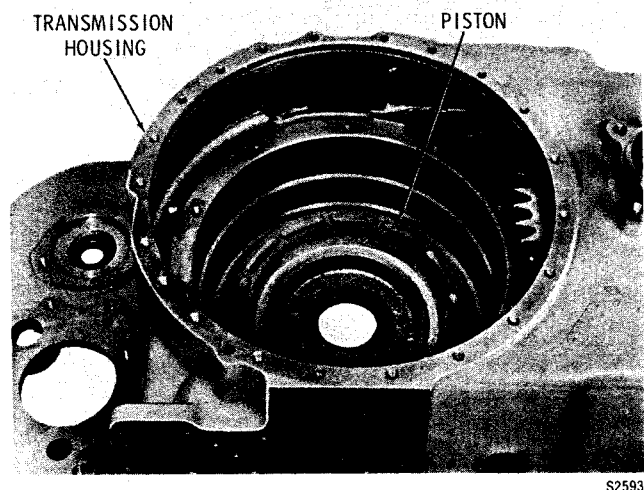

Fig. 7-13. Reverse clutch piston installed
(1) Position the transmission housing on blocks on its front splitline (fig. 7-13). Install the reverse clutch piston with sealrings (as assembled in para 6-12) into the transmission housing.